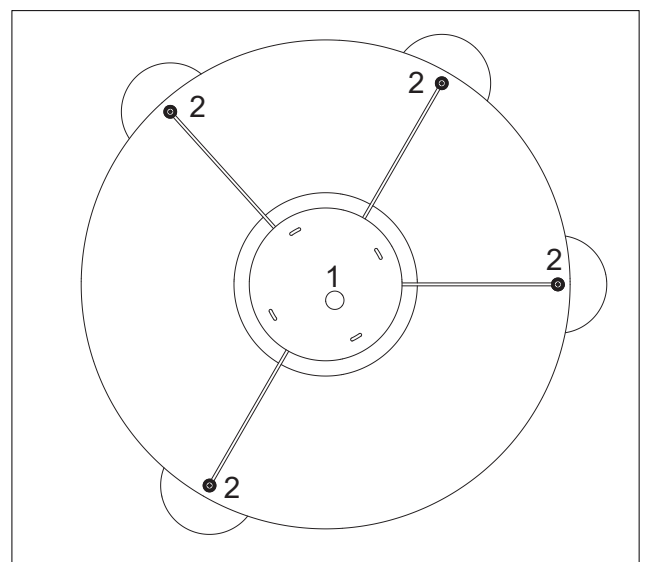

Figure 1
- 1- Place the template on the ceiling and fasten it with adhesive tape. Consider the position of electrical cable outlet (1) coming from the ceiling and the shade's cable holders (2) to properly place the shades. Mark all the points on the ceiling and remove the template without damaging it. Figure 1
- 4 - Screw the cable holder (F) at the marked point in the ceiling [see figure 1 template].
9 - Unscrew the 2 knurled nuts (J) from the top of the shade and fit the acoustic panel (K) onto the studs (L). Screw the knurled nuts back to secure the acoustic panel. Notice the distance between shades for their correct placement (see template figure 1). Tighten and screw the cable holder (F) to fix the shade to the ceiling.